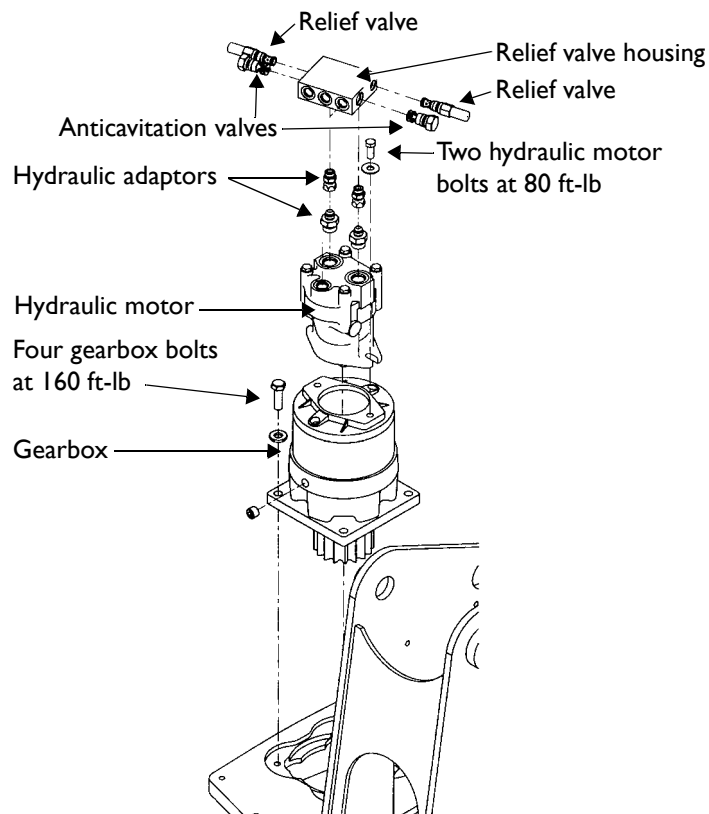

Figure 23
4. Check the two sets of installation bolts of the hydraulic swing assembly, shown in *Figure 23*, below, for the correct torque values.